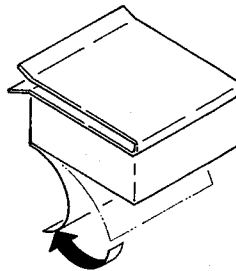

Fig.38
- (10) Remove the vinyl sheets from the bottoms of the balancing metal fixtures to reveal the adhesive rubbers, and fix the option drawer. (See Fig.38.)